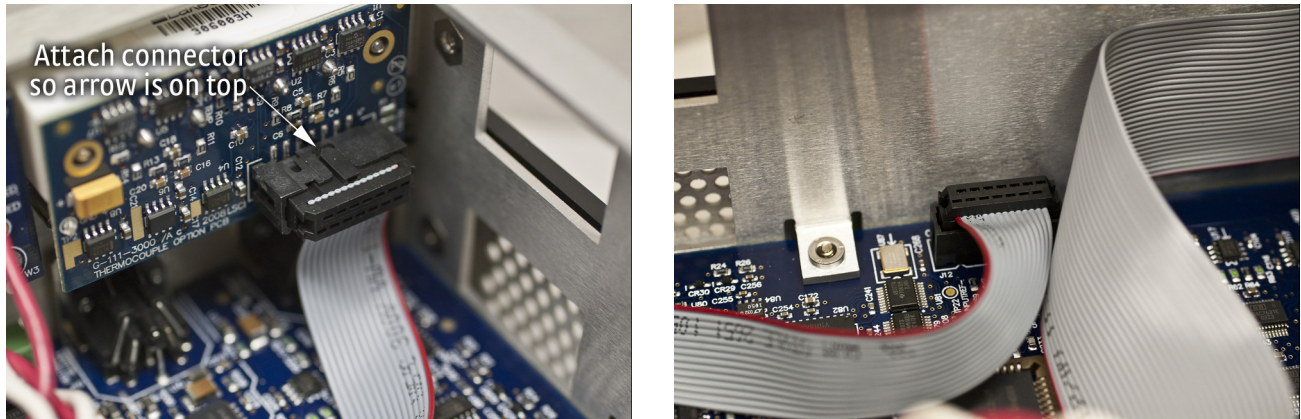

FIGURE 8-11 Proper orientation of the ribbon cable connector plug
10. Insert the 14-pin ribbon cable connector plug into the socket on the option board. Orient the ribbon cable connector plug so that the arrow nub slides into the plug slot, and the ribbon cable exits downward (FIGURE 8-11).
11. Plug the other end of the cable into the main board, option connector J12 (FIGURE 8-11).